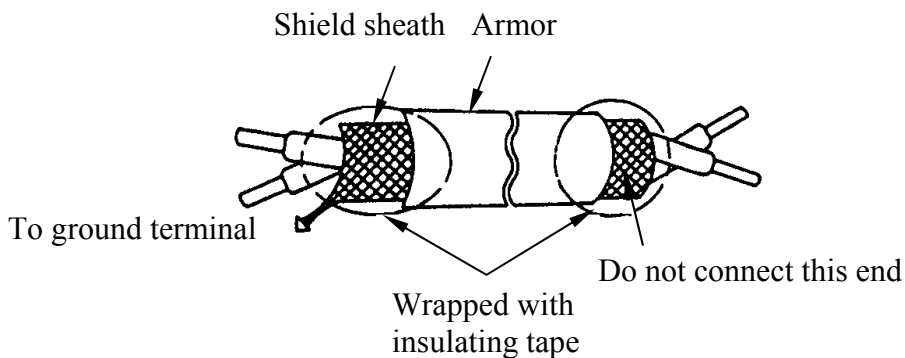

Figure 3-5 Processing the ends of twisted pair cables
- In order to prevent noise interference which could cause inverter faults, the control circuit signal should be shielded and twisted. Please refer to figure 3-5. The wiring distance should be less than 150ft (50m).